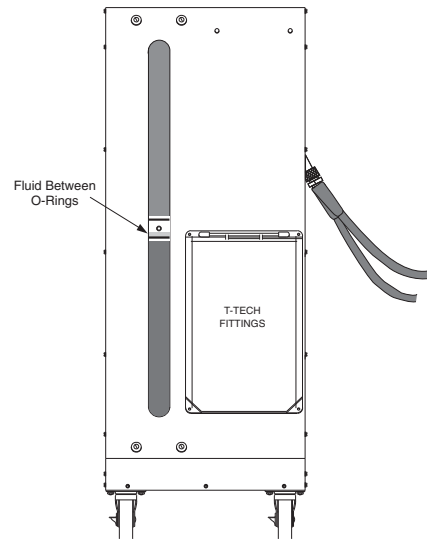

Figure 50. Fluid Between O-Rings
5. You may notice some fluid between the O-rings on the piston (see Figure 50). The presence of new ATF is normal between the O-rings for lubrication of the piston and O-rings. However, if old ATF passes by the O-rings and into the new ATF, O-ring replacement is needed. (See *Troubleshooting*)